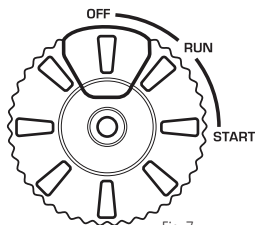

Fig. 7
3. Turn the Multifunctional engine switch to the "OFF" position (Fig. 7).